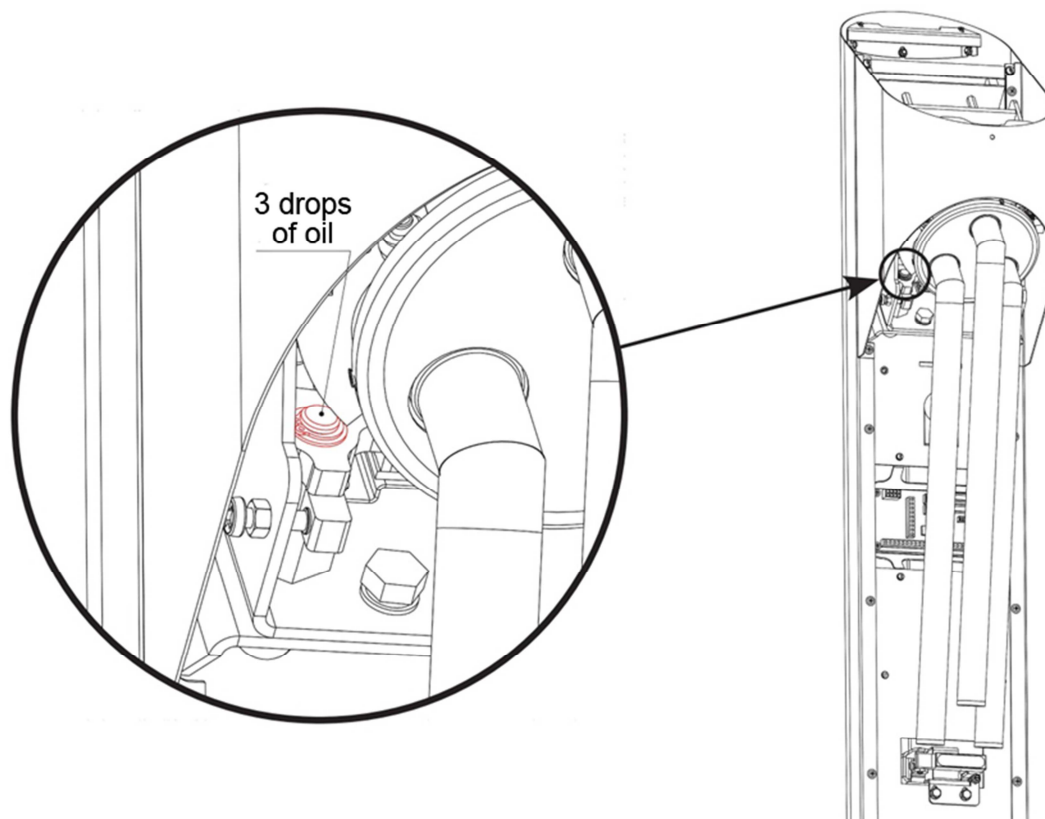

Fig. 12
5.1. The rotation axis of the stopper unit (Fig. 12).